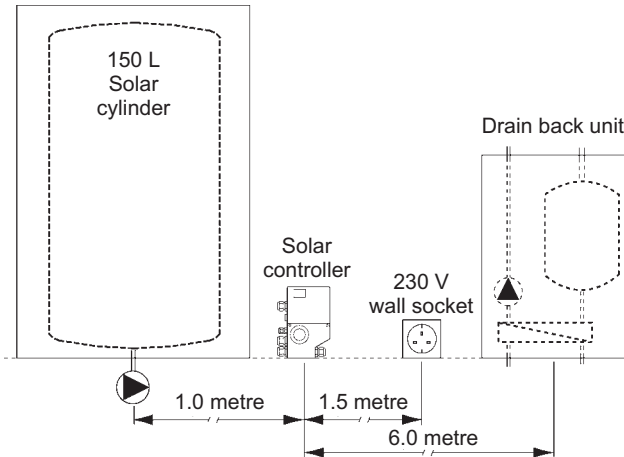

Fig. 11
4.5 FIT THE SOLAR CONTROL BOX - Figs. 11, 12 and 13
1. Decide upon the position of the control box which must be accessible and kept free from moisture. Ensure that the position meets the requirements given in Figs. 11 and 12.